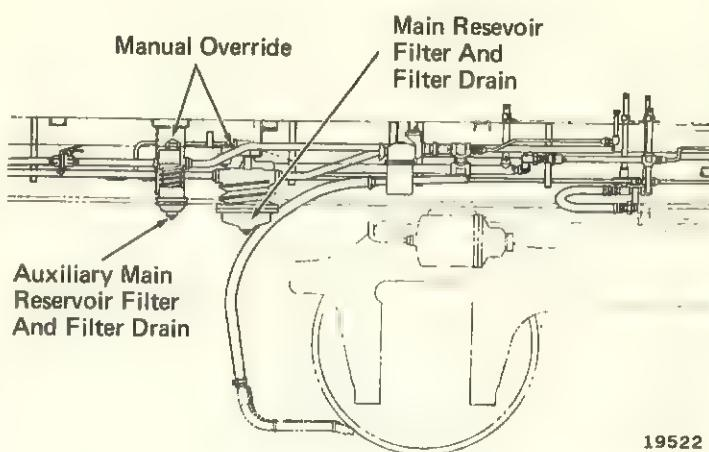

Fig. 3-5 -- Main And Auxiliary Main Reservoir Centrifugal Filters And Filter Drains
1. Momentarily operate the manual override lever on auxiliary main reservoir centrifugal filter, 2, Fig. 3-4 and Fig. 3-5.
2. Momentarily operate the manual override lever on the main reservoir centrifugal filter, 1, Fig. 3-4 and Fig. 3-5.